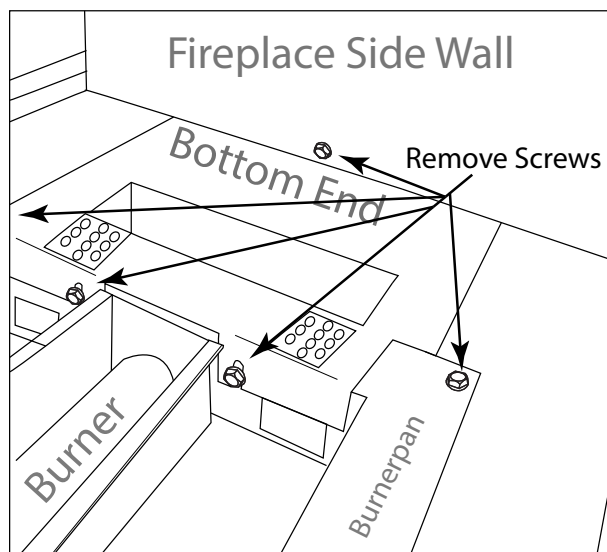

Fig. 2 Removal of burner pan screws.
RECOMMENDATION: Once the gas line is established it is recommended to remove the burner pan from the firebox until the fireplace is in the final stages and ready for the burner installation. See burner pan removal below in Fig. 2.
Step 2: Remove the three (3) screws in the bottom end. Then lift the bottom end up and out from both sides of the burner pan area.
Step 3: Remove the four (4) screws (two on each end) out from the burner pan. They are located at the outer edge of the burner pan, on each corner (See Fig. 2).